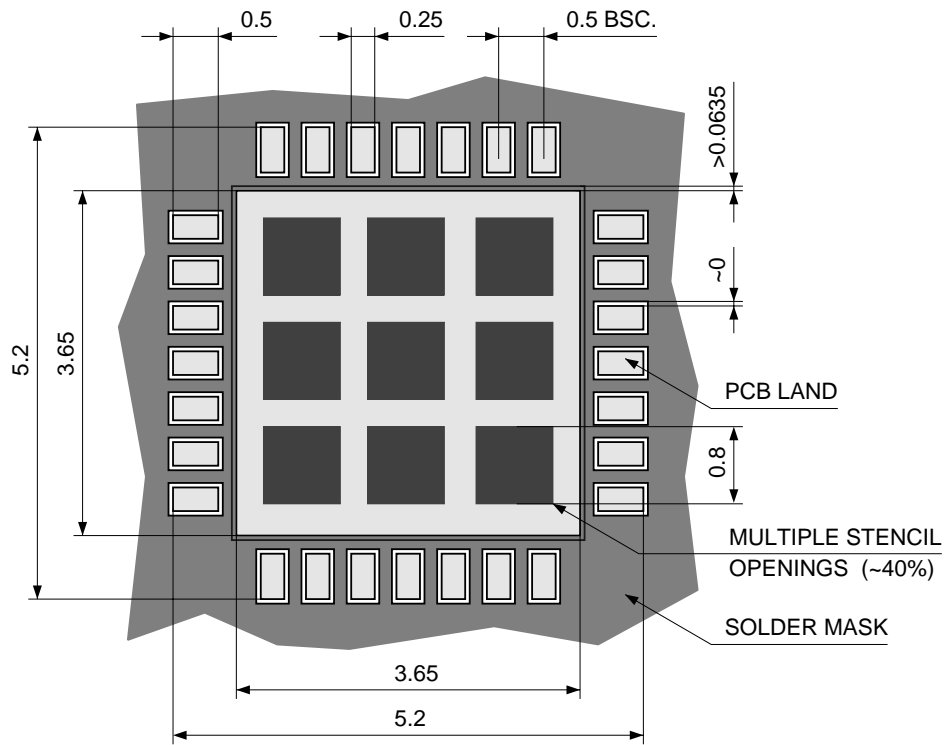

Figure 18: PCB solder paste stencil openings
- To avoid applying an excessive amount of paste, it is recommended that multiple stencil openings - summing up to about 40% of the total area - are placed under the DAP (see Figure 18). Applying too much paste may result in lifted packages and unsoldered pins.